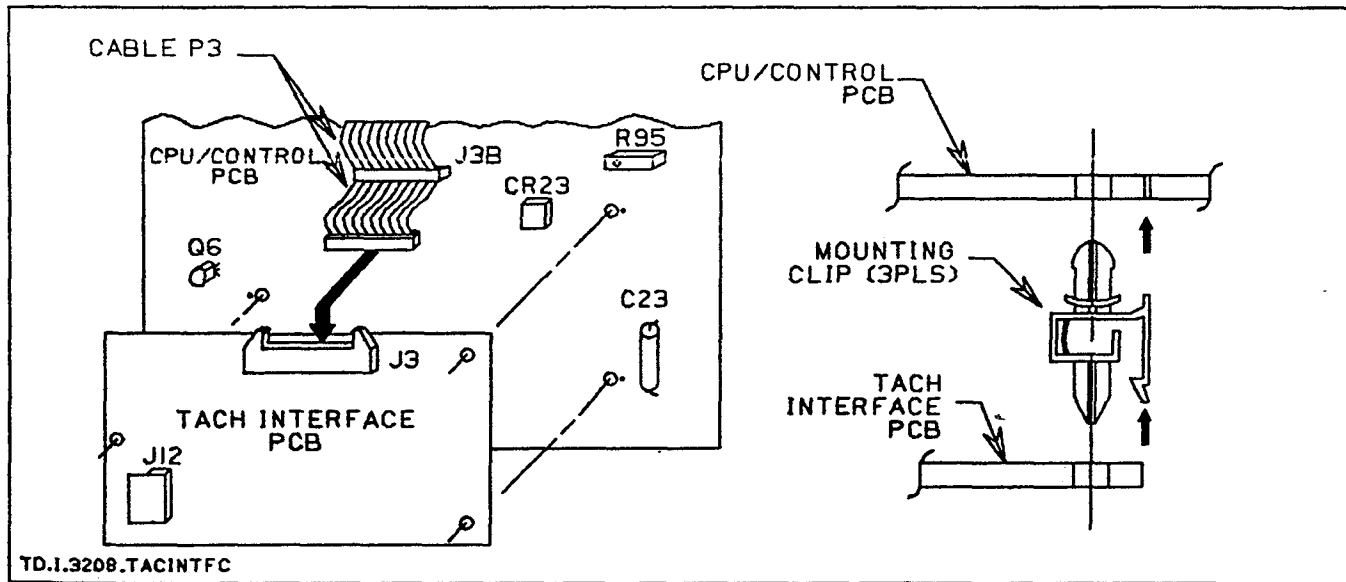

Figure 1
3. See Figure 1. Install the mounting clips in pre-drilled holes on the CPU/Control PCB.